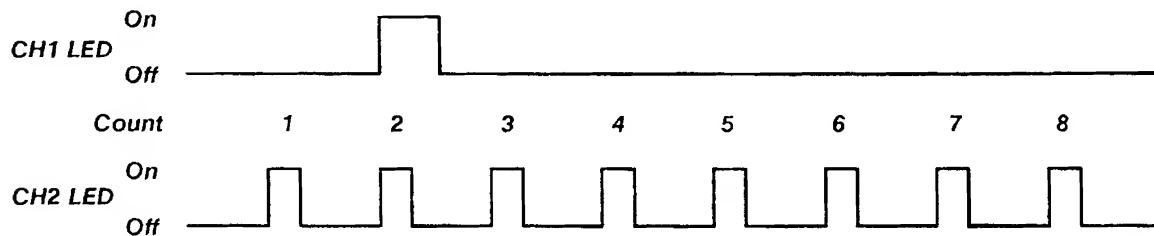

Figure 3-1 — Sample LED Fault Code Timing Diagram
- If the CH 1 LED is flashed during a cycle of the CH 2 LED, then the test corresponding to the current count is the one that failed. Refer to the timing diagram in Figure 3-1 for an example LED fault code. The timing diagram illustrates a test number 2 failure.